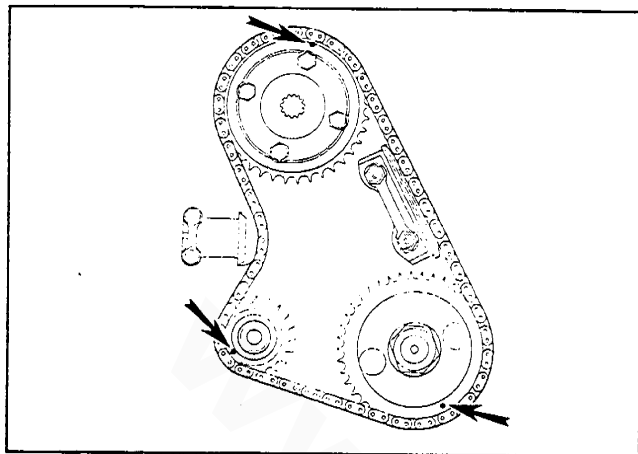

Fig. 3
17. Position the chain wheel marks as shown in Fig. 3 then remove the chain tensioner if it requires overhaul.
5. Position the chain wheel marks as shown in Fig. 3.